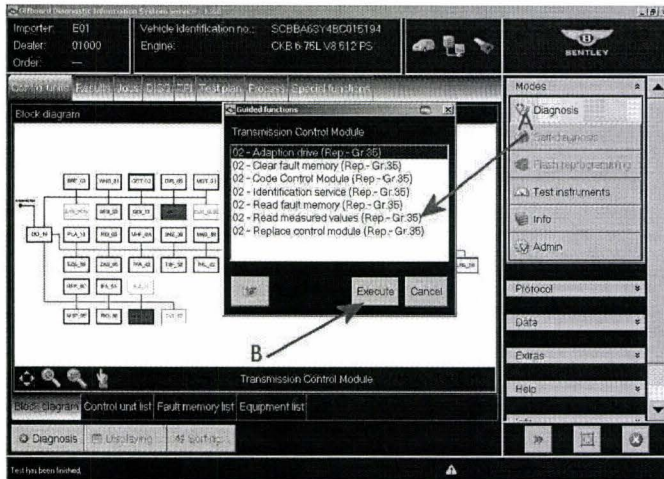

Figure 10
- From the Guided functions menu as shown in Figure 10 (point A) select 02 – Read measured values (Rep.Gr.36) and then select Execute (Point B)